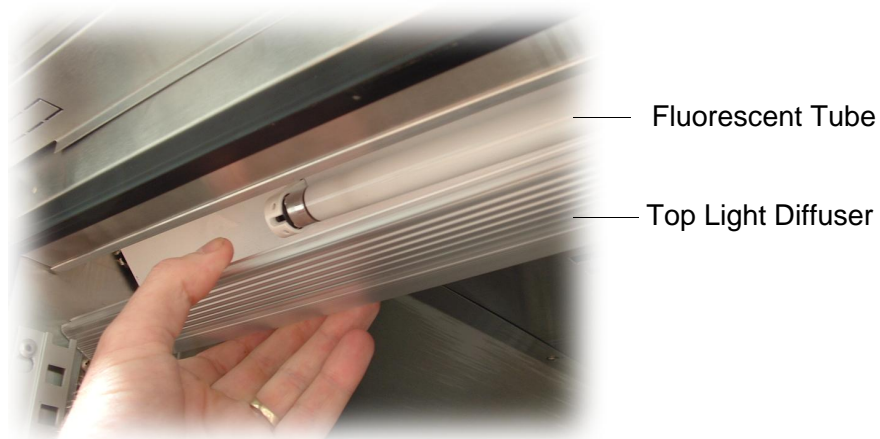

Figure 3: Replacing the Fluorescent Tube
2. Remove the top light diffuser, by compressing the back section of the diffuser until it disengages from the aluminium housing and then push the diffuser back (see Figure 3 below).